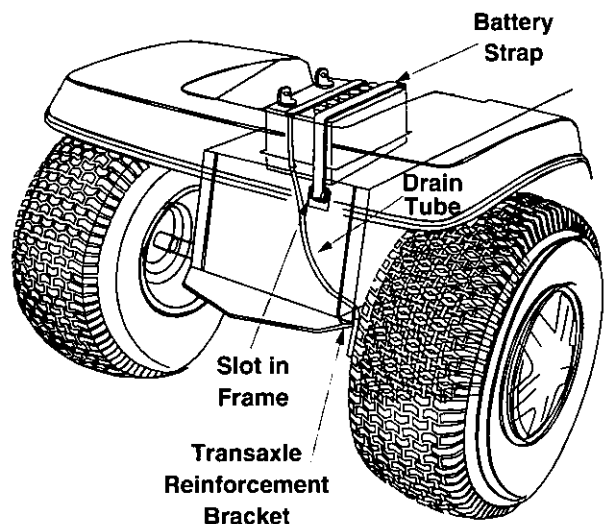

Figure 9
6. Secure battery by hooking battery strap into slot in rear frame, under the fender. See Figure 9.
7. Insert the drain tube (if equipped) through the hole in the transaxle reinforcement bracket located on the **right** side of the unit. See Figure 9. Be certain drain tube is routed away from the wheel rim.